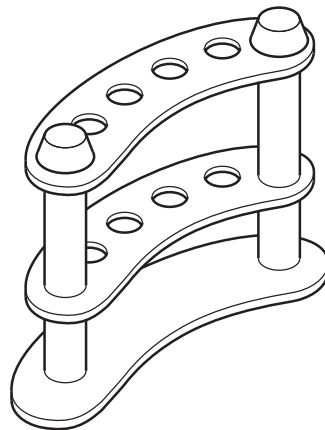

Fig. 19
- (g) Fig. 19 shows a commercially produced toothbrush holder made from stainless steel.